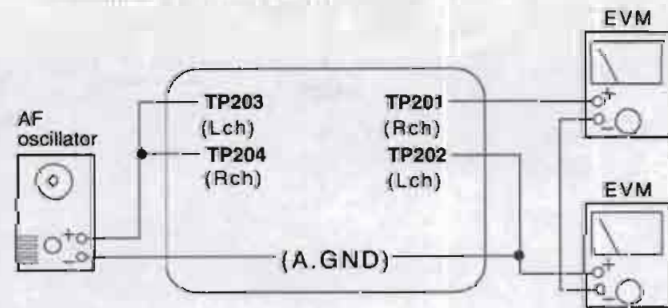

Fig.9
1. Connect the measuring instrument as shown in Fig.9.